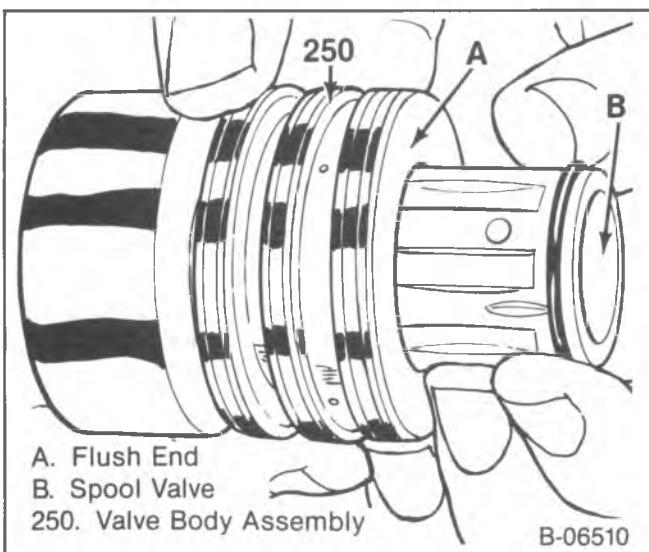

Figure 11—Remove or Install Valve Spool
- Valve spool (252) and seals (230) and (231) (figure 11).
15. Screws (210), clamp (211) and ball guide (212).
- Balls (213).